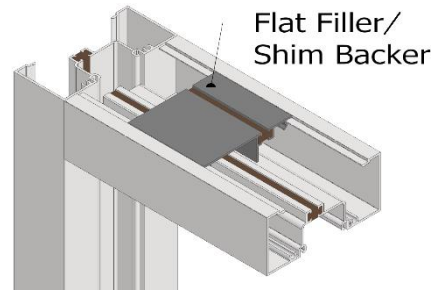

Figure 28
A. Install flat fillers at all head and jamb anchor locations to aid in shimming and anchoring frame (figure 28).